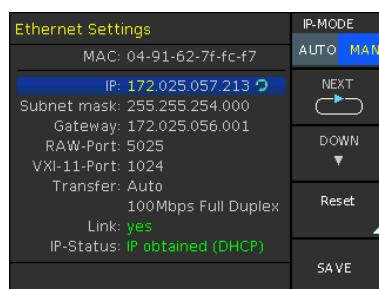

Figure 3-2: Ethernet settings dialog
3. **NOTICE!** If the R&S NGC100 cannot obtain an IP address automatically, or cannot establish the connection, the "Link" status shows "no" in the Figure 3-2.
If switched on and connected, the R&S NGC100 indicates the address information and LAN parameters in the Ethernet settings dialog. See Figure 3-2.